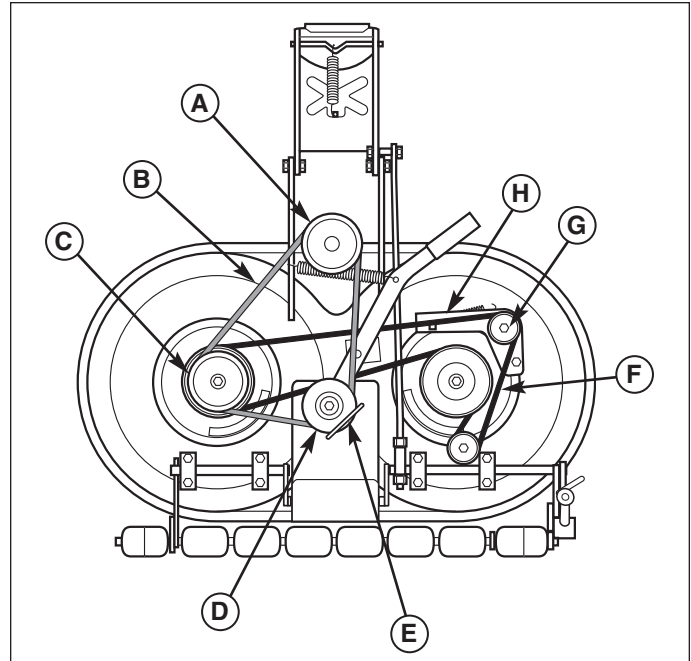

Figure 38. Mower Belts
3. Note the position of the idler pulley belt guide (E, Figure 38). Loosen the idler pulley capscrew and remove the belt from the pulley (D).
4. Install the new belt (B) as shown. When the mower deck is installed on the tractor, the belt wraps around the PTO clutch pulley (A), idler pulley (D) and mower deck drive pulley (C).
5. Return the idler pulley belt guide (E) to its original position and tighten the idler pulley capscrew.
3. Loosen the idler assembly capscrew (G, Figure 38).